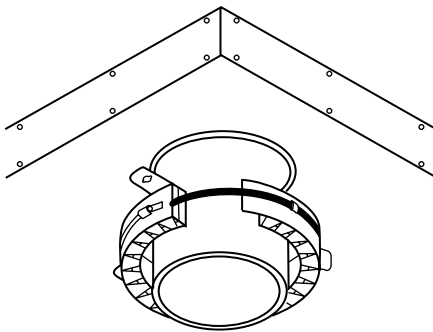

Fig. 1
3. Open the PPD 6 and fit it around the pipe (Fig. 1).